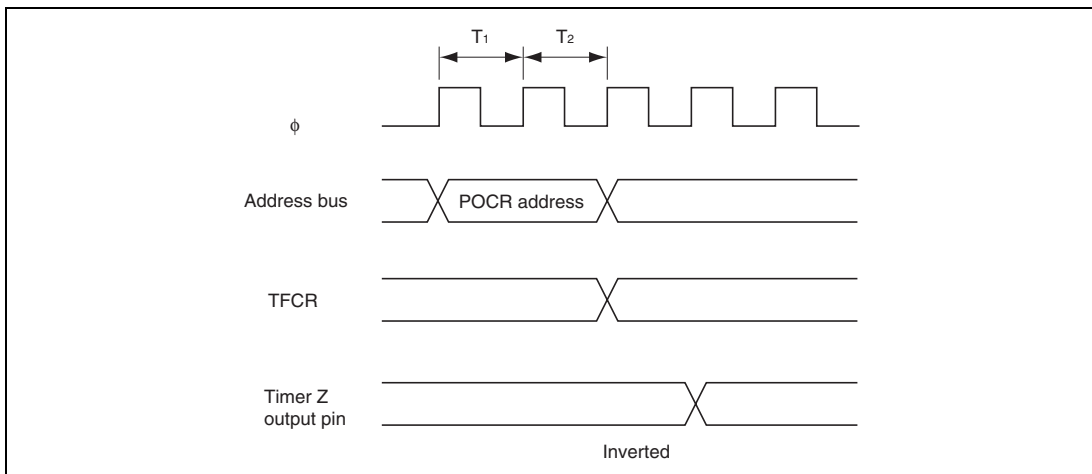

Figure 13.47 Example of Output Inverse Timing of Timer Z by Writing to POCR
4. Output Inverse Timing by POCR: The output level can be inverted by inverting the POLD, POLC, and POLB bits in POCR in PWM mode. Figure 13.47 shows the timing.